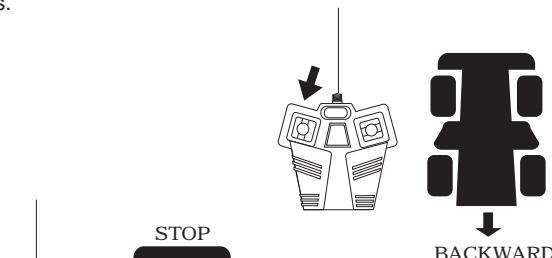

Figure 8
4. Release both control joysticks, the vehicle will stop. See Figure 8.